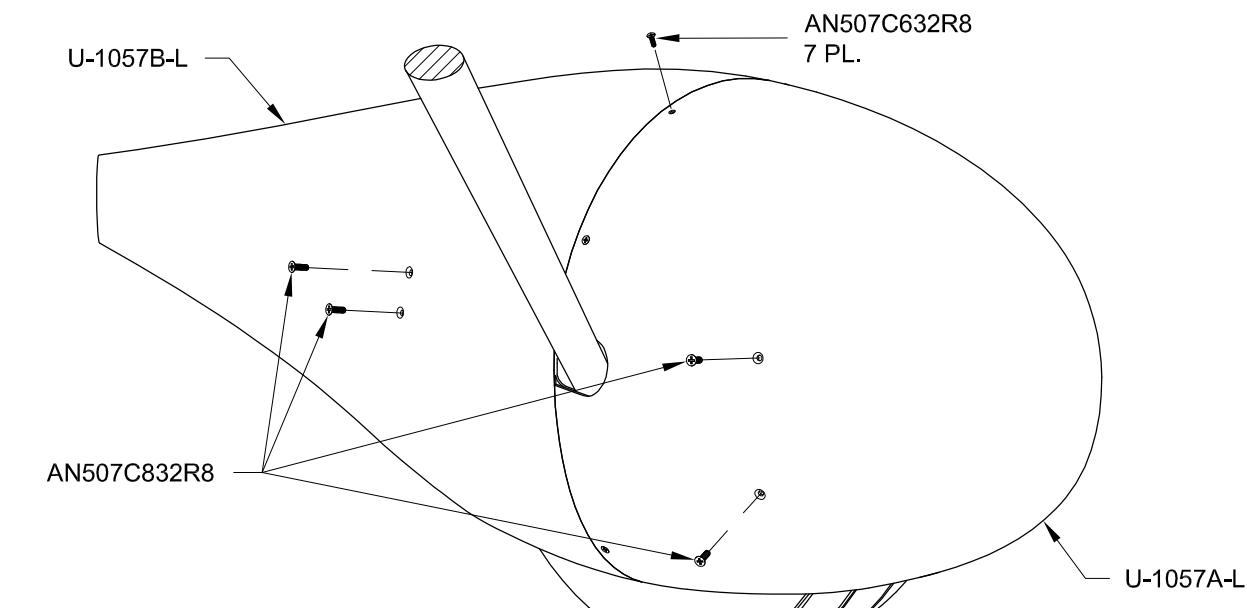

FIGURE 5:
Step 5: Attach the U-1057A-L Wheel Fairing Front and U-1057B-L Wheel Fairing Rear to the U-1010-L Main Wheel Fairing Bracket using the hardware as per the callouts in Figure 5.